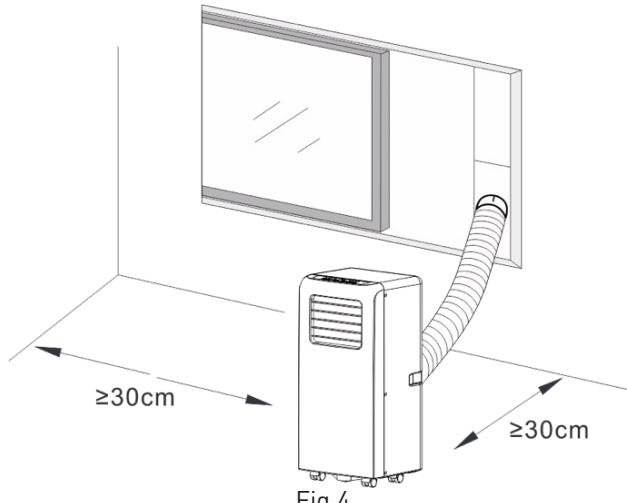

Fig.4
- A removal air-conditioner shall be installed in the flat and empty place all around. Don't block the air outlet, and the required distance around should be at least 30cm. [See Fig.4]